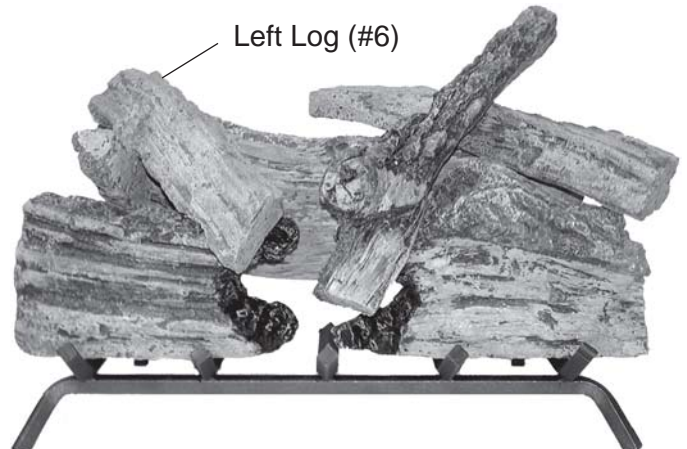

Figure 108 - Installing Left Log (#6)
8. Rest front of Left Log #6 just left of the middle of Log #1A and back end of Log #6 just left of middle of Log #3. See Figure 108.